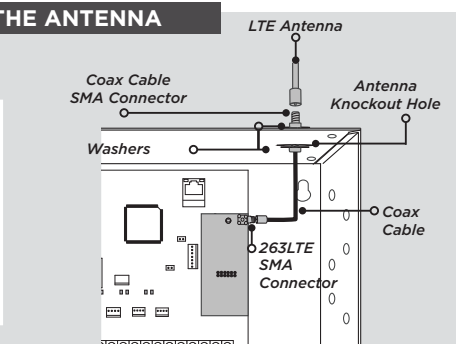

Figure 5: XR150/XR550 and XF6 Series Panel
4. Attach the included LTE antenna to the coax cable SMA connector. See Figure 5.